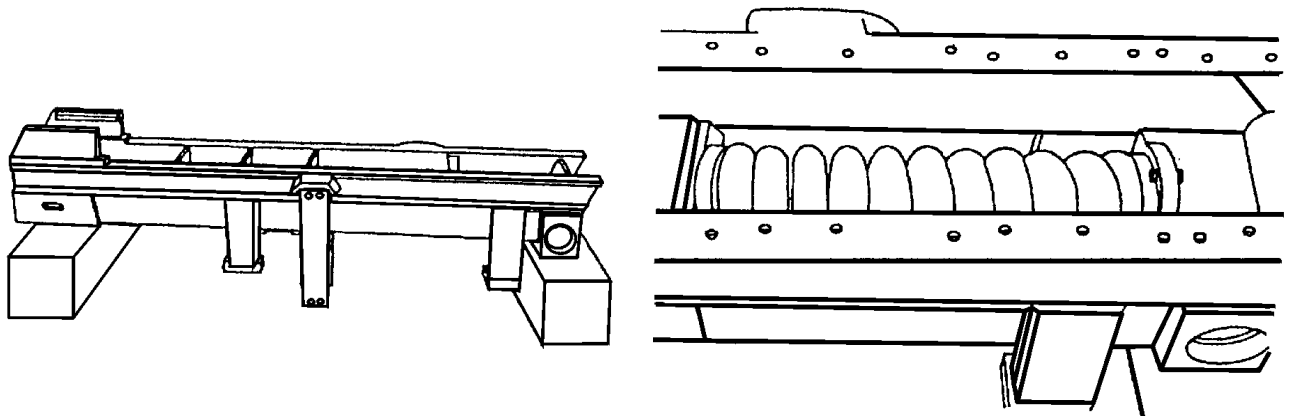

Fig. 14.38. Track Frame Position
4. Position track frame on 300x300 [mm] blocks as shown in Fig. 14.38 and remove all track rollers.